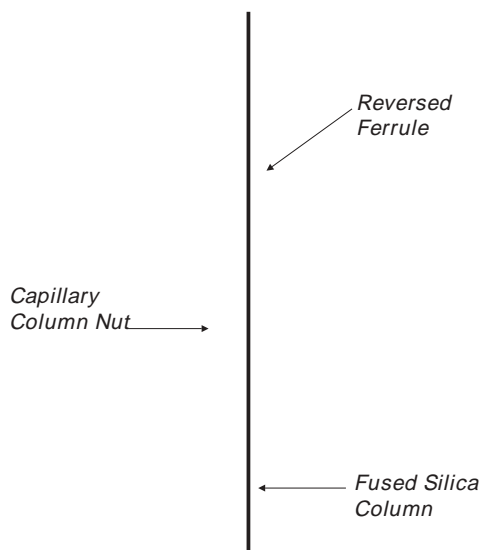

Figure 1
2. Install the appropriate Vespel® or Graphite ferrule onto the column. Make certain that the tapered edge is toward the upper end of the column. This prevents contaminating the column with ferrule material. See Figure 1.